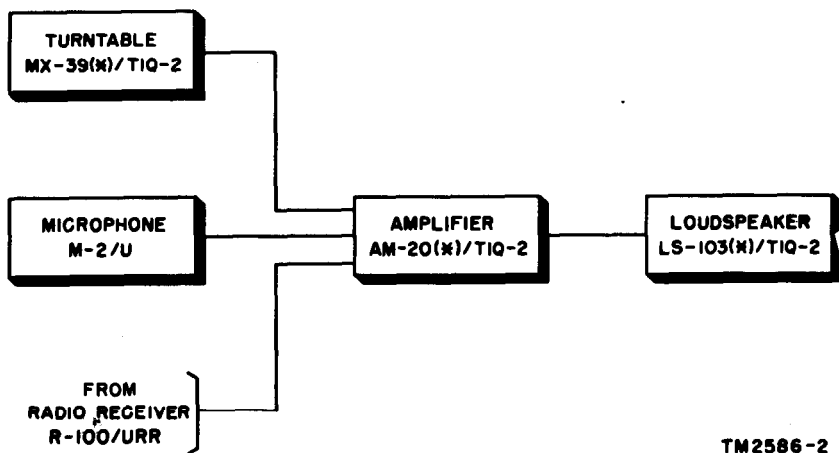

Figure 2. PA set, functional block diagram.
b. Use. Public Address Set AN/TIQ-2(\*) can be used inside a building or assembly hall, outdoors in training areas, or mounted in a vehicle for mobile transmission. Figure 2 is a block diagram of the equipment ready for use.